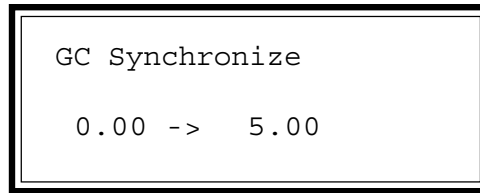

Figure 6-43 GC Synchronize Screen
- Enters a GC Synchronize step (see Figure 6-43) that adds enough time to the 3100 operating cycle to synchronize it with the GC cycle. (When the 3100 is running multiple samples or multiple runs on the same sample, GC Synchronize replaces Purge Ready between runs.)